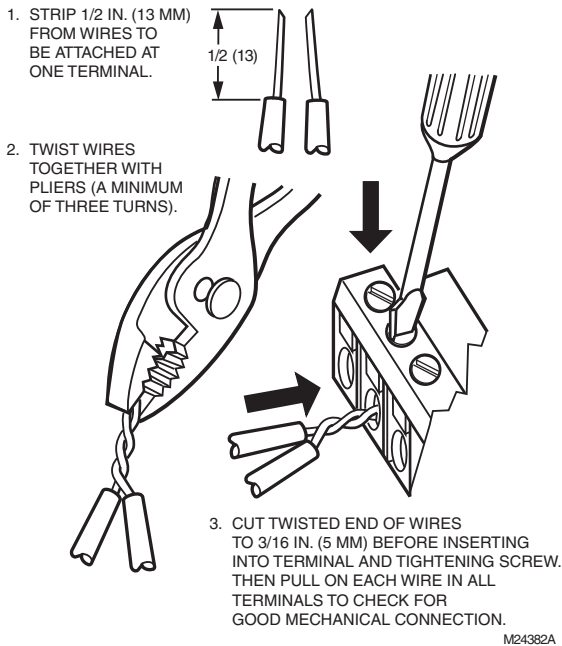

Fig. 5. Attaching two or more wires at terminal blocks.
4. If two or more wires are being inserted into one terminal location, twist the wires together a minimum of three turns before inserting them to ensure proper electrical contact. See Fig. 5 on page 6.